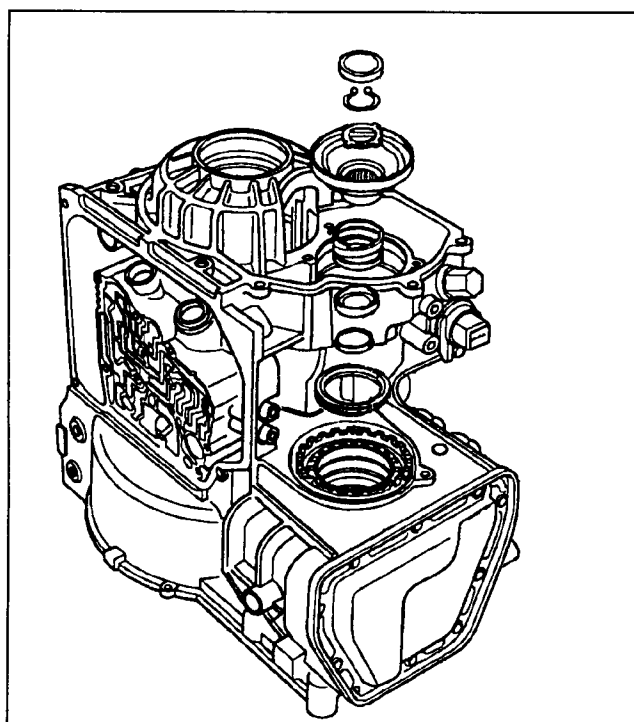

Figure 96
12. Using a screwdriver or similar tool, pry the seal out from the differential axle flange (See Figure 96).